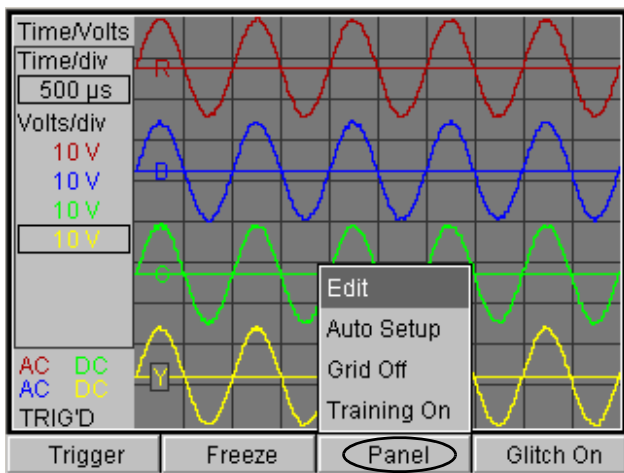

Figure 7.39: Lab Scope Screen, DMM Off - Panel Function Key
- 2 Press the **Panel** function key (see Figure 7.39).